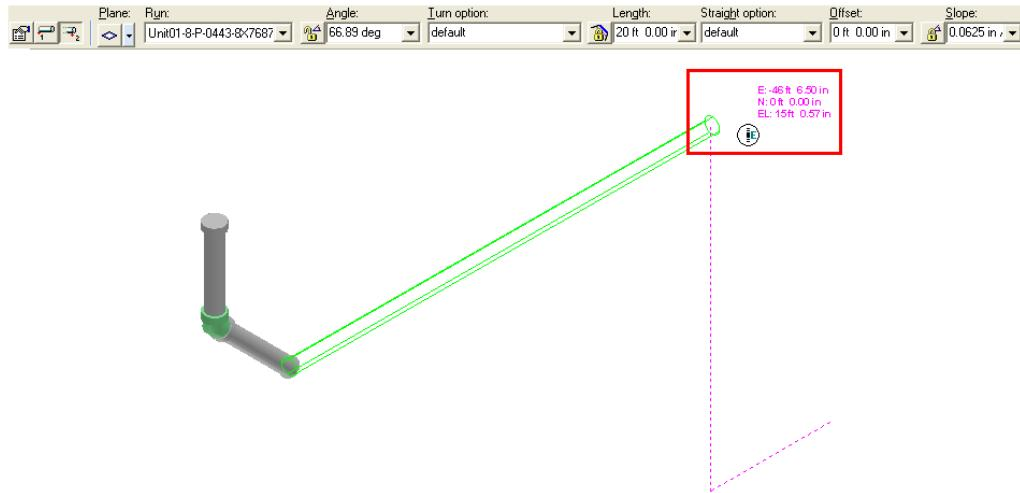

Figure 12: SmartSketch Indicator Specifying the East Direction of Routing
15. Select the **Lock Slope** option on the **Route Pipe** ribbon to constrain the routing to the minimum slope value and position the cursor point until the SmartSketch indicator displays an E glyph. This glyph indicates that you are going in the easting direction E, as shown in Figure 12.